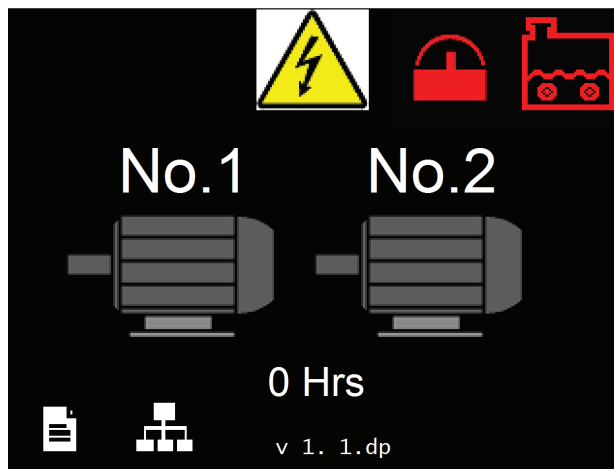

Figure 7.21 - Electric Mode Home Screen
- » The electric mode home screen will be displayed on the control panel, Reference: Figure 7.21.